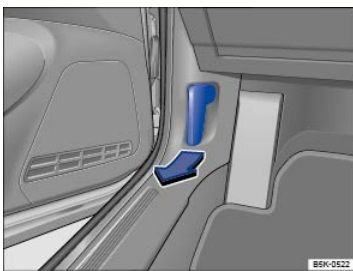

Fig. 207 In the footwell on the driver side: Inside engine hood release lever.
- Before you open the hood, make sure that the windshield wiper arms are resting on the windshield ⇒ ①.
- Open the driver door and pull the inside hood release lever in the direction of the arrow ⇒ Fig. 207. The engine hood is released from its latch by a spring ⇒ .